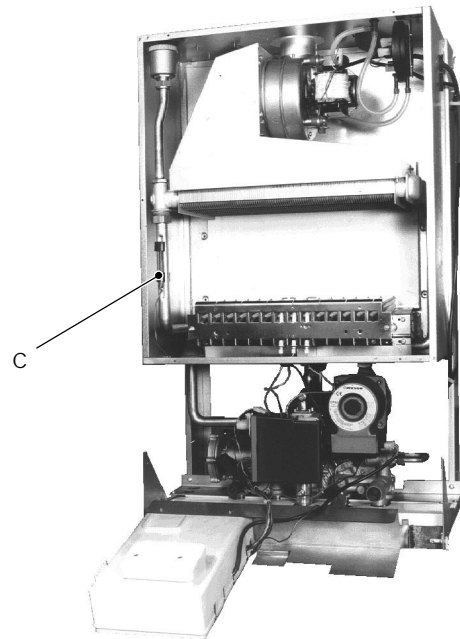

fig. 88
- the temperature probe C which is fitted on the outlet pipe of the main heat exchanger (fig. 88)
Verify the soundness of the fitting between the main circuit pipe and the temperature probe C (fig. 88).